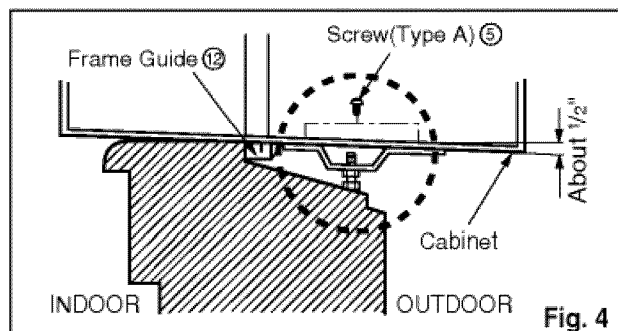

Fig. 4
4. Select the position that will place the sill support near the outer most point on sill (See Fig. 4)
5. Attach the sill support to the cabinet track hole in relation to the selected position using 2 Type A screws in each support(See Fig. 4).